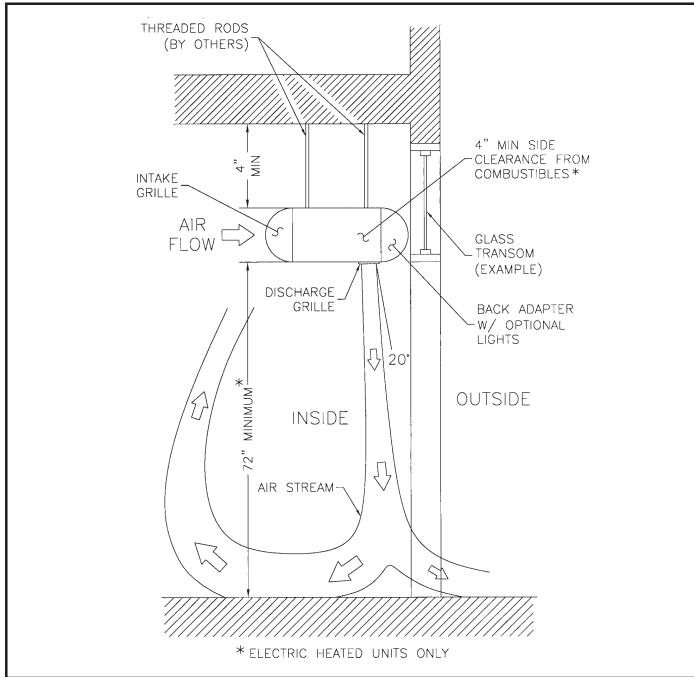

FIGURE 3 - Suspension Mount with Back Adapter
**B. WITH BACK ADAPTER: Figures 3 & 4**
1. The unit may be mounted with the louvered discharge grille facing toward the door opening, or the interior of the building (electric heated models only). See Figures 3 and 4.
2. **Figure 3** installation (louvered discharge grille facing interior of the building). Follow instructions A & B above.